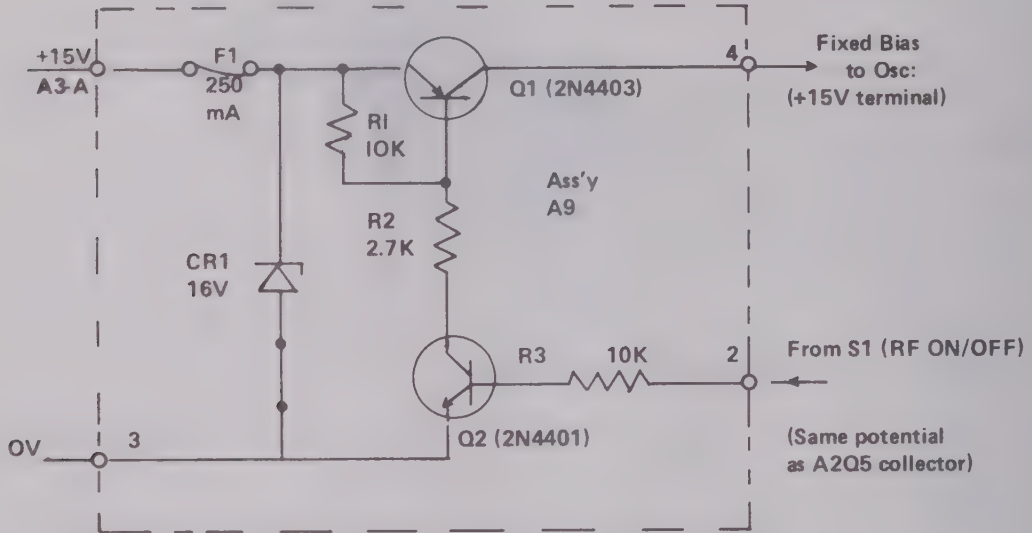

Fig. 3 Bias switching, circuit diagram
8. Avantek oscillators fitted in RF Units 6738A and 6742A have two bias voltage terminals, one of which requires the tracked voltage described in para.1; the other requires a fixed +15 V supply. In order to ensure complete suppression of oscillation when an RF OFF command is applied, a transistor switching circuit is employed - see Fig. 3.